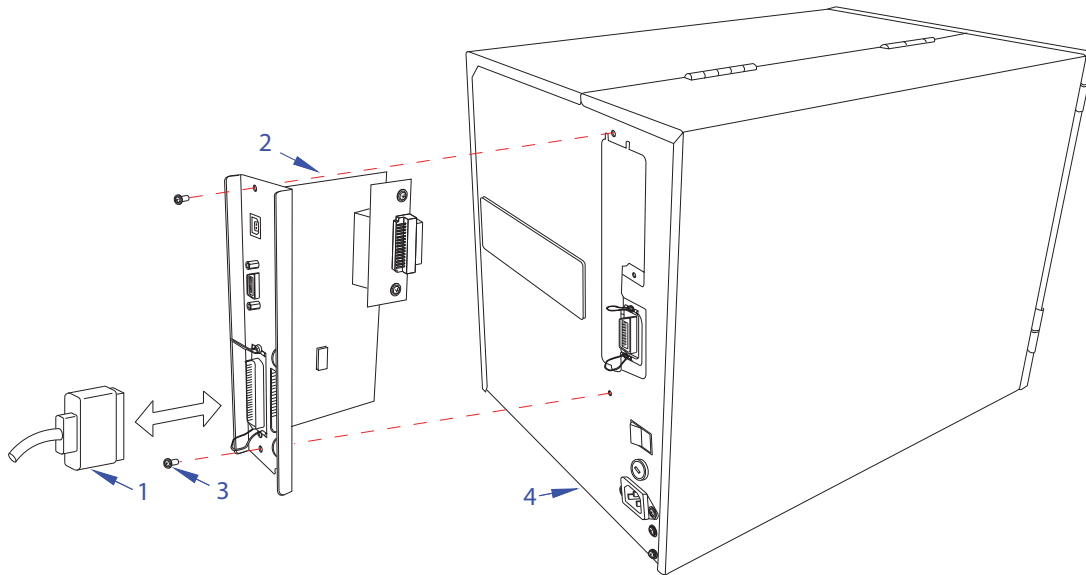

Figure 4-1, Interface Installation
- 2 Route interface cable (1, Figure 4-1) from host computer to interface board (2).
- 3 Insert interface board (2) into printer (4) and secure using two screws (3).
- 4 Connect interface cable (1).